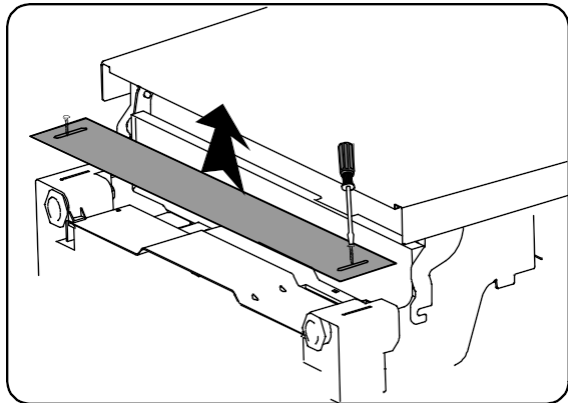

Figure 1a
1. Remove two (2) screws at front of the kickplate using a #2 Phillips screwdriver.
2. Tilt and pull forward to remove see figure 1a.